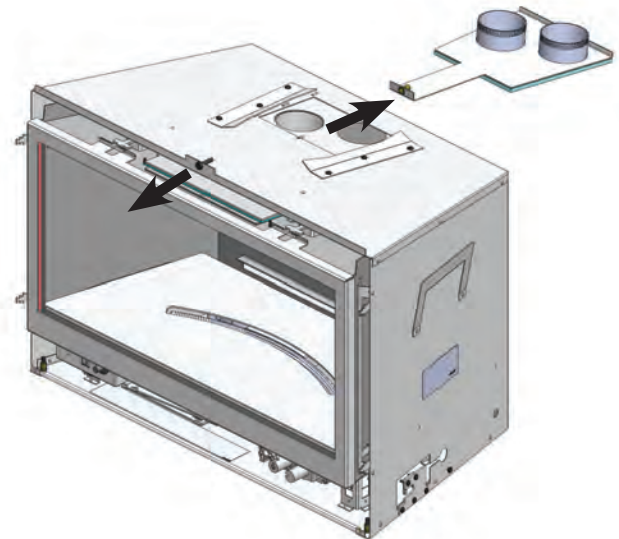

Fig.2
2. Unscrew the 1/4-20 bolt from the vent connector slide plate (**Fig.2**) and remove to attach to the flex vents WITH HOSE CLAMPS as shown below: